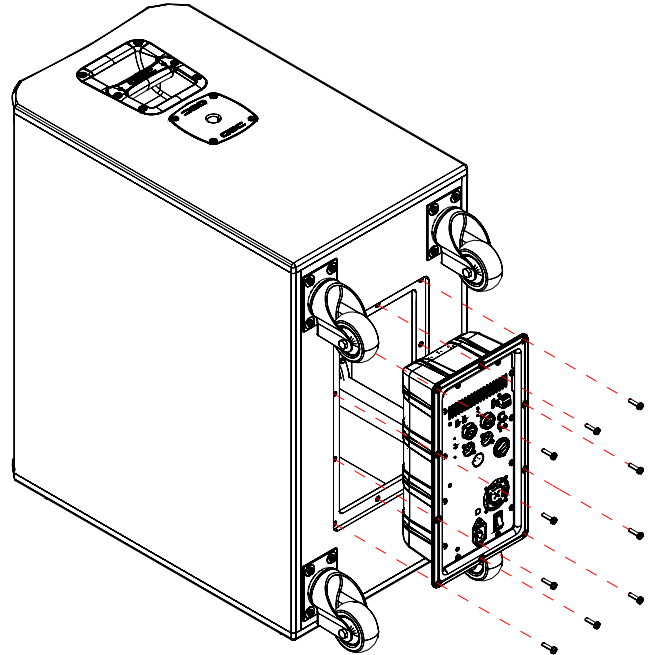

Figure 6.1 - BOP removal on the KSub.
2. Partially remove the amplifier module out of the cabinet as seen in Figure 6.1.